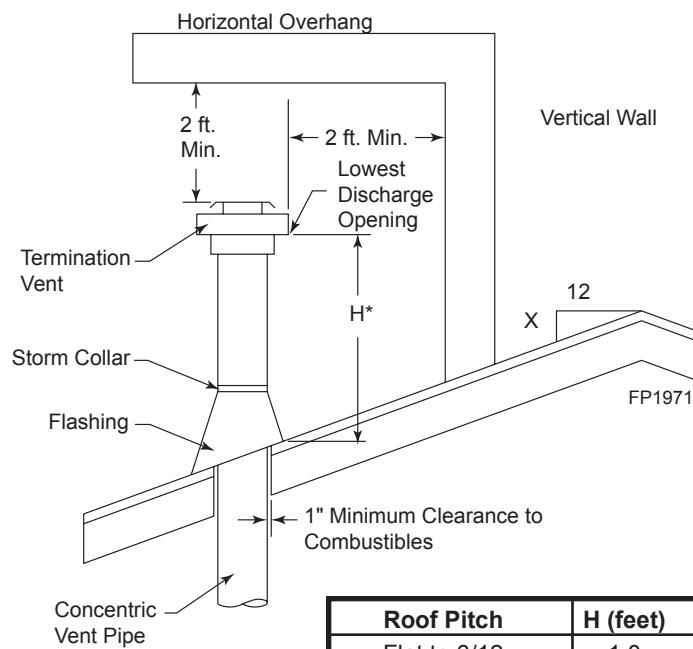

Figure 35 -
- For the minimum height of the vent above the highest point of penetration through the roof refer to Page 25, *Figure 35*.